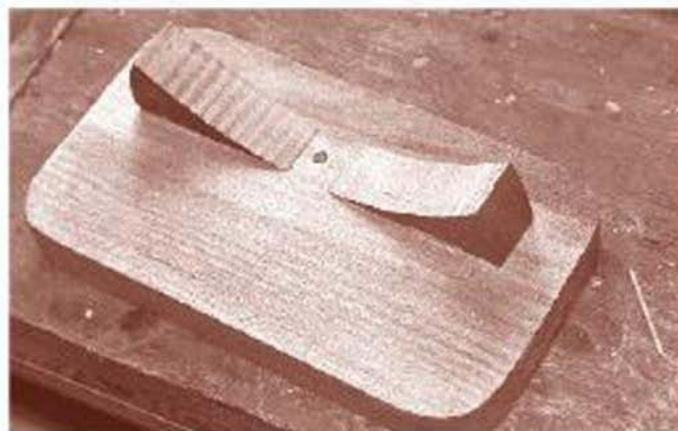

FIGURE 19-3
- 4 Cut the two little mount wedges to shape and size, so the top curve is a partial circle that comes from a circle with a radius of 4 1/2" (Figure 19-3).